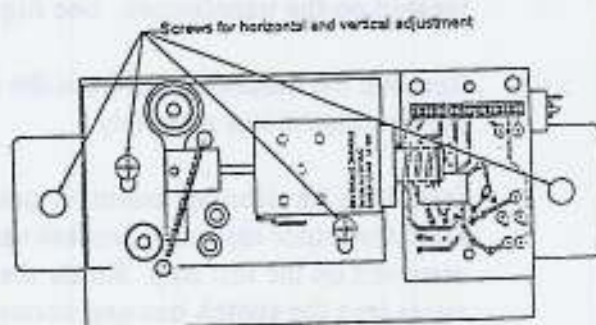

Figure 3
11. With the door in the fully closed position, adjust the horizontal and vertical position of the Electric Lock Assembly so that the steel post is captured by the movable cam. See Figure 3. Tighten all mounting nuts and secure all loose wires.